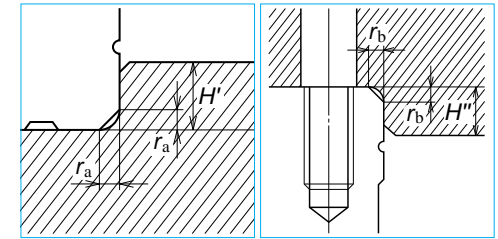

Fig. 9.10 Shoulder for the rail datum face Fig. 9.11 Shoulder for the slide datum face
- Fig. 9.10 and 9.11, show shoulder height of the mounting face of the machine base and the size of corner r. These figures are relevant when the linear guide is pressed to the shoulder of the machine base or table (the raised section from where the mounting face begins), and horizontally secured to it. Recommended sizes are shown in "Shoulder height and corner radius r" of each series introduction.